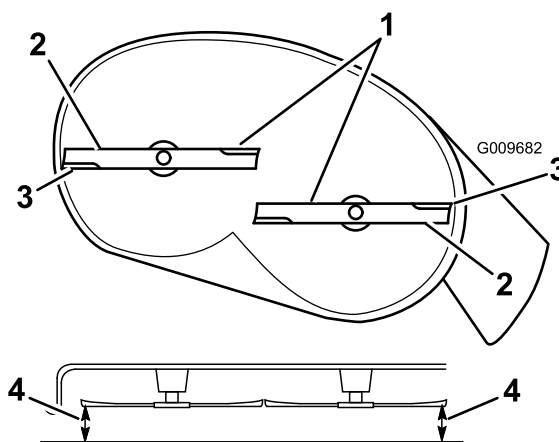
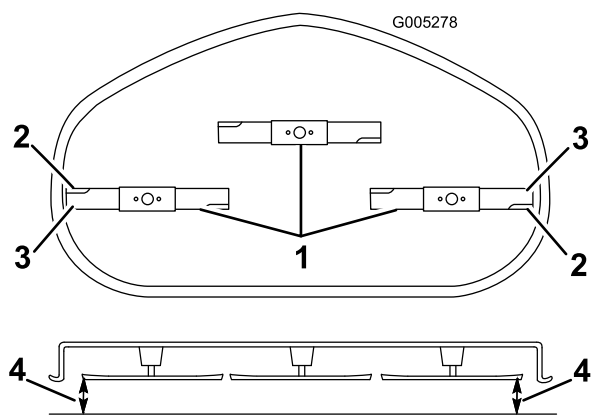

Figure 56
Figure 57
4. Carefully rotate the blades so that they are all side to side (Figure 56 and Figure 57).
- Measure between the outside cutting edges and the flat surface (Figure 56 and Figure 57). If both measurements are not within 3/16 inch (5 mm), an adjustment is required; continue with this procedure.